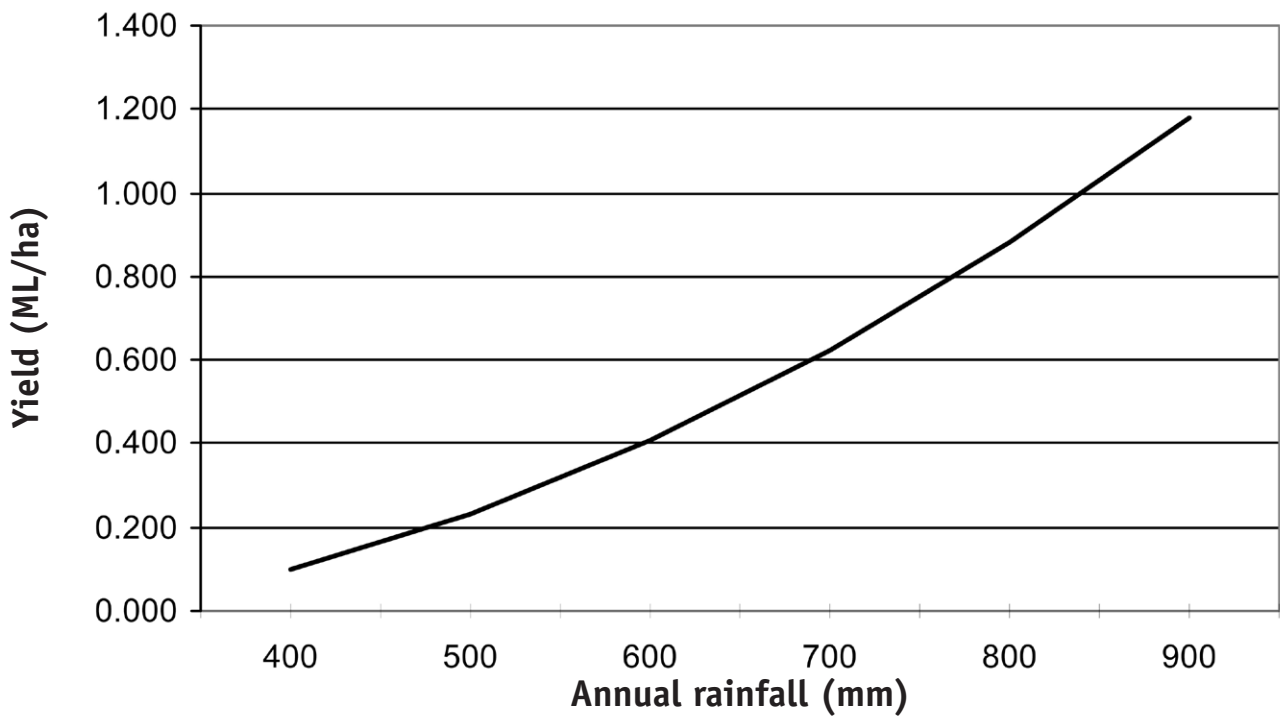

Figure 11 Relationship between yield per hectare and annual rainfall
Determining catchment yield is a two-step process. First, the yield per hectare generated as a function of annual rainfall is determined from Figure 11. Then to determine the total catchment yield for small, relatively uniform catchments the yield per hectare is multiplied by the area of the catchment and factors for soil type, land use (groundcover) and location.
- Y = yield generated (ML/ha from Figure 11)